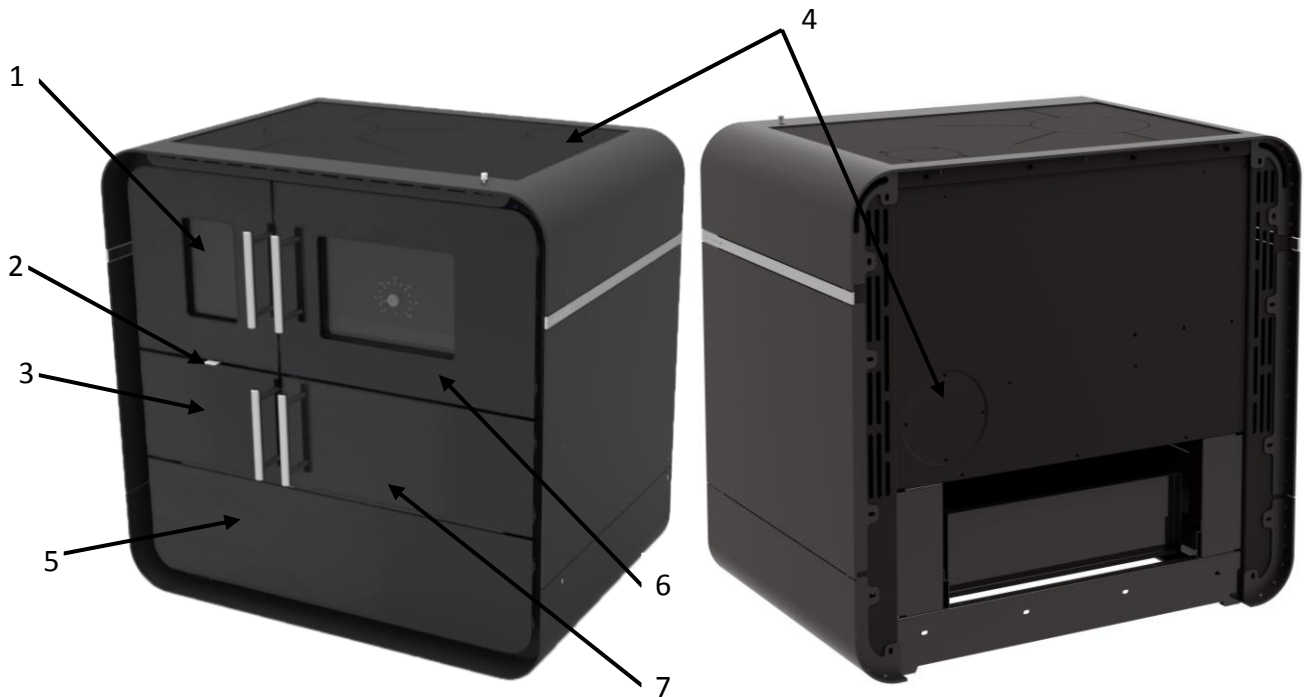

Figure 1
Primary combustion air, and thus the heating capacity of the stove, is determined through the primary air opening. That air is controlled on the ashtray support through the slide shutter for the primary combustion air (Figure 1, item 2).
3.4. Oven door (Figure 1, Position 6)